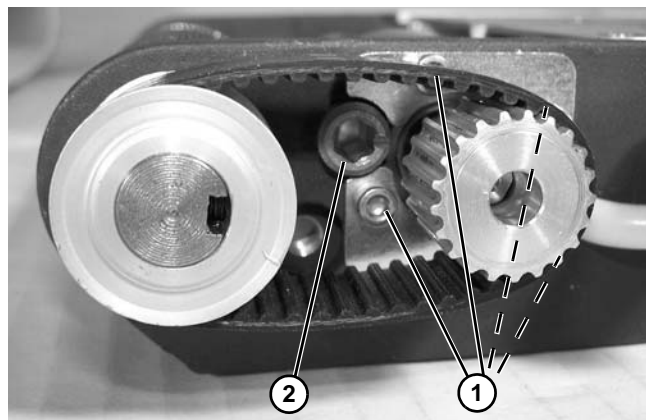

Figure 72
4. Loosen four clamp plate screws (**Figure 72, item 1**).
5. Loosen timing belt tension cam (**Figure 72, item 2**).